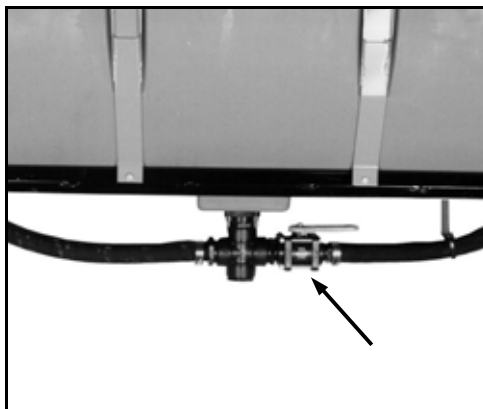

FIG 5.77
To shutoff either or both solution tank sumps, manually close either or both 1½” ball valve(s) located under each solution tank (fig 5.77). Your sprayer may be equipped with optional 1½” electric tank shutoff valves (fig. 5.78, item 3).